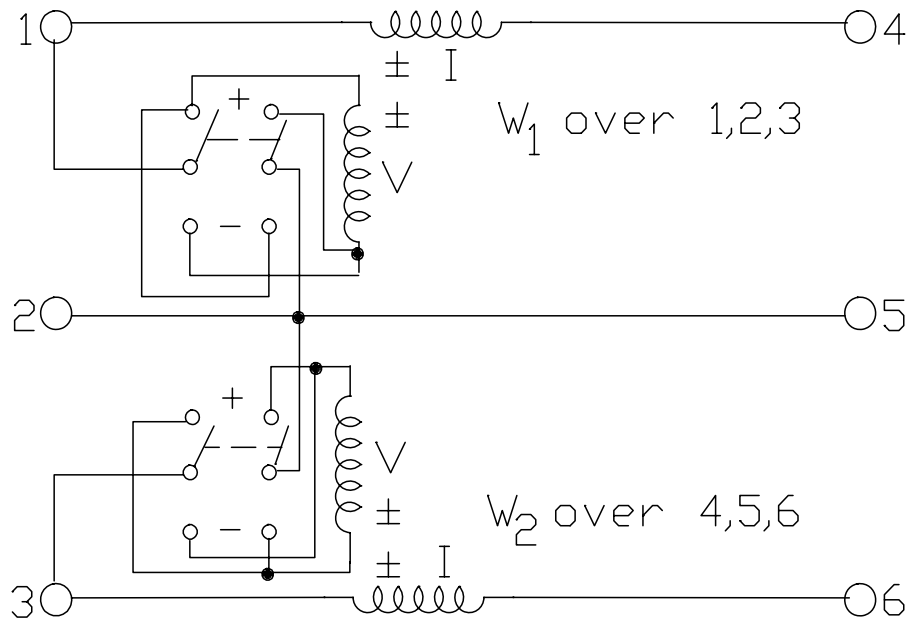
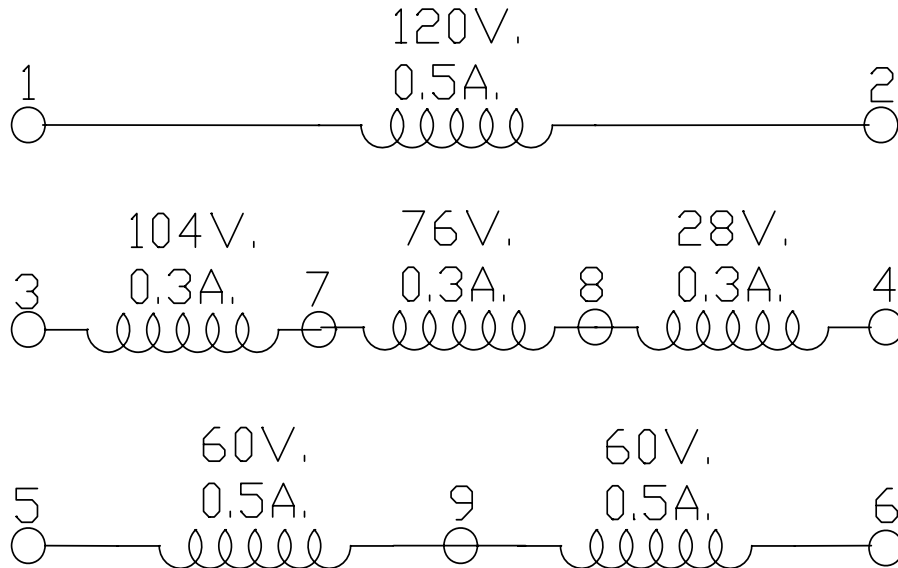

Figure 2: Three Phase Wattmeter
Figure 3: Transformer Module
- (5) One watt-watt meter, three phase. (See Figure 2 on page 7)
- (6) One watt meter, single phase.
- (7) One power transducer, single phase.
- c. Transformer Module (See Figure 3 on page 8)
- (1) One 2 winding, 117-10 volt (8 ampere secondary).
- (2) One 3 winding, 120-208-120 volts with multiple taps and ratings.